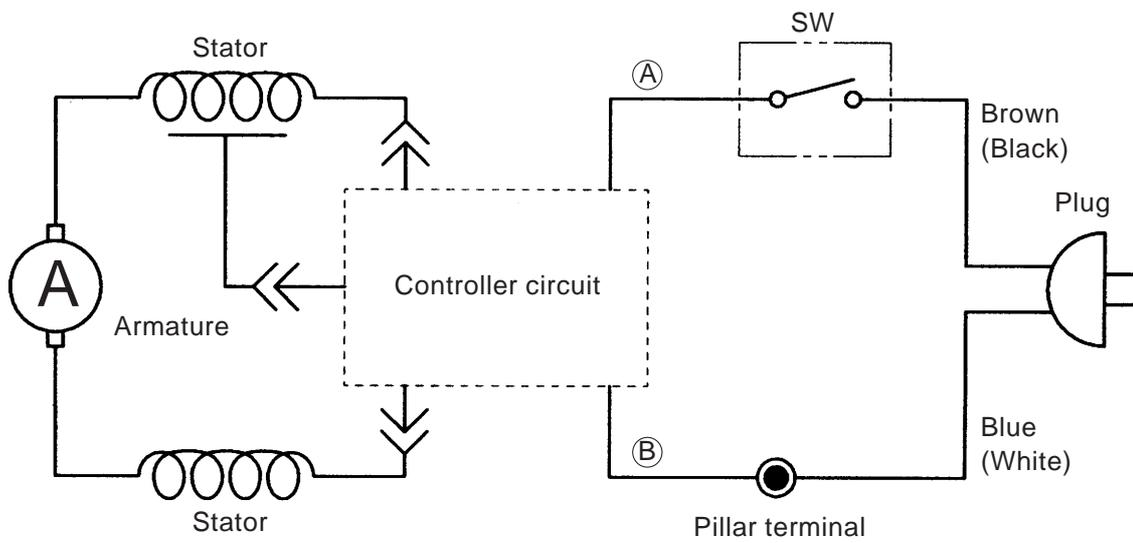

Fig. 8
Put two internal wires of the Stator Ass'y <68> and an internal wire of the Internal Wire <87> (grounding wire) through the 9 x 10 hole of Case (B) <85>. Insert the two internal wires of the Stator Ass'y <68> into the two tabs at the upper portion of the Controller Circuit <86> and insert the Internal Wire <87> into the lower tab. The upper two tabs have no relation in connecting position. Put the two internal wires of the Controller Circuit <86> through the 14 x 16 hole at the upper portion of Case (B) <85>. Position the dial to the dial hole, and then put the Controller Circuit <86> in Case (B) <85>. Putting the two internal wires of the Controller Circuit <86> through the handle side of the Sleeve <81>, put the Controller Circuit <86> and Case (B) <85> in the Housing Ass'y <72>. Perform wiring according to the wiring diagram as shown in Fig. 8. At this time, make sure that the two internal wires of the Controller Circuit <86> are held with the Internal Wire Holder <82>.